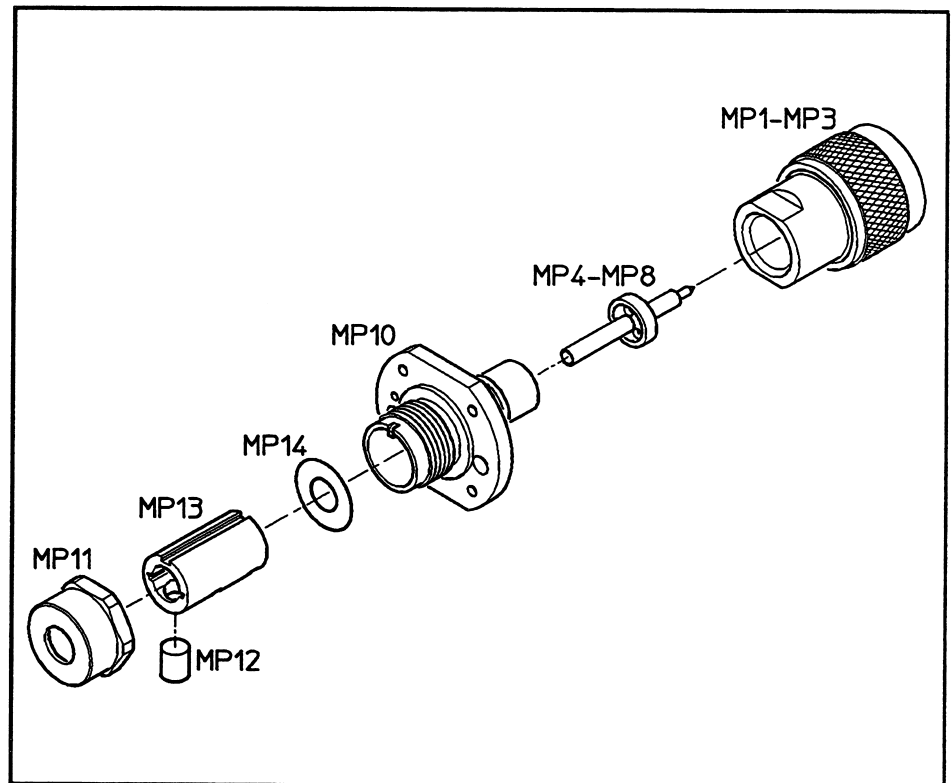

Figure 8. A1 Bulkhead Illustrated Parts Breakdown
7. Screw the bulkhead into the center pin assembly as shown in figure 8. Tighten in place to 50 ± 5 in-lbs (565 N·cm)
3. Position the Power Sensor as shown in figure 8 (top). The small hole 5 should be on the left side of the RF input connector. Remove the allen cap screws 1, 2, 10, and 13. Loosen 11 and 12. Remove the upper chassis from the Power Sensor.